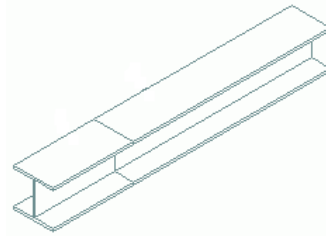

Figure 50: Split beam
- Select a user coordinate system as shown in Figure 50.